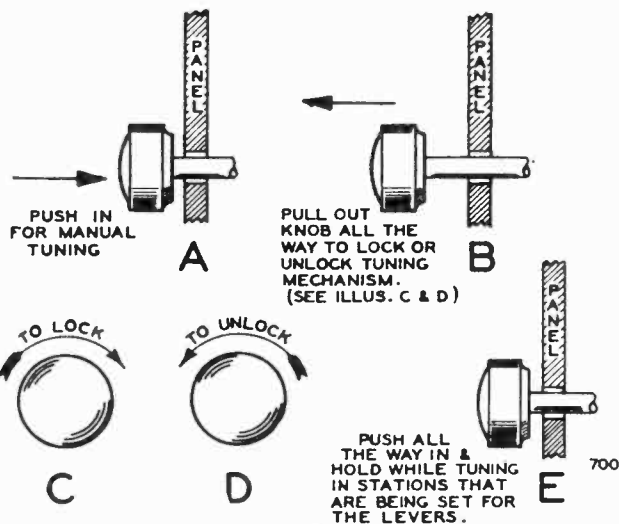

FIG. 3
1. Pull the dial tuning knob all the way out (See Illus. "B," Fig. 3), and rotate the tuning knob to the left (counterclockwise) until it cannot be turned any further (See Illus. "D," Fig. 3). This will unlock the automatic tuner mechanism. (NOTE:—Automatic tuner mechanism is locked tight when radio is shipped from the factory.)
tune the station, the dial tuning knob will have to be pressed in (See Illus. "E," Fig. 3). Turn the dial tuning knob very slowly back and forth (while still holding the automatic tuner lever in downward position), noting the width of the shadow on the screen of the cathode-ray tuning indicator. Minimum width on the tuning indicator indicates the ideal tuning position (resonance). The station will then be clearest and accurately tuned in.
5. Pull the dial tuning knob all the way out (See Illus. "B," Fig. 3) and rotate the tuning knob to the right (clockwise) until it cannot be turned any further (See Illus. "C," Fig. 3). This will lock the automatic tuner mechanism and the stations you have set up for automatic tuning will be locked in place. After you have locked the tuner mechanism, push the dial tuning knob in.